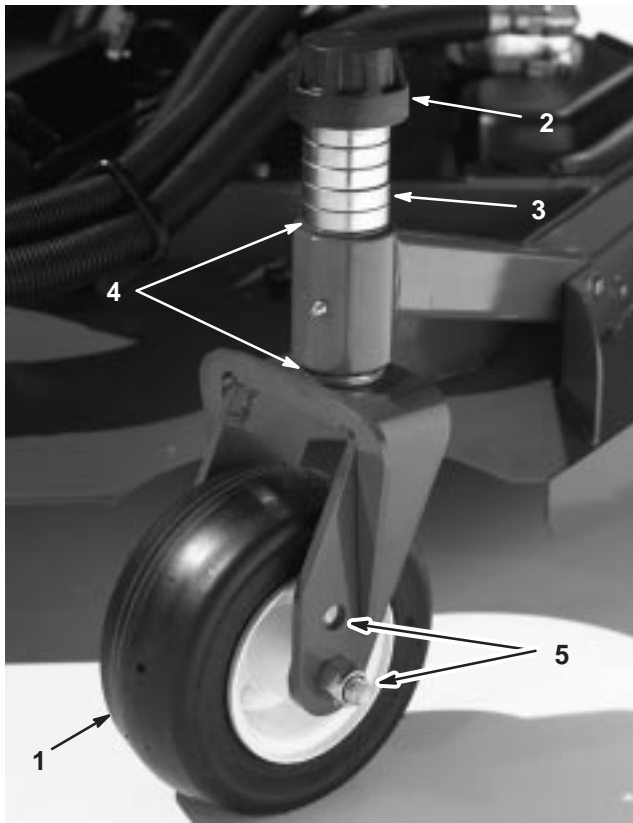

Figure 14
- Position the castor wheel axles in the same holes in all of the castor forks (Fig. 14 & 16). Refer to the following chart to determine the correct hole for the setting.
- Remove the tensioning cap from the spindle shaft (Fig. 14) and slide the spindle out of castor arm. Put the two shims (1/8 inch) onto spindle shaft as they were originally installed. These shims are required to achieve a level across the entire width of the cutting units. Slide the appropriate number of 1/2 inch spacers onto the spindle shaft to get the desired height-of-cut; then slide the washer onto the shaft.